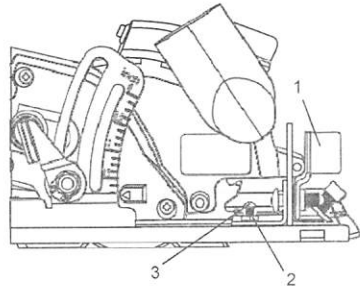

Fig. 4
1. Loosen the bevel locking lever (1) and rotate the sole plate toward the 0° mark as far as it will go and tighten the bevel angle locking lever (Fig 4).
3. If the test cut is not at 90°, turn the zero adjustment lock nut (2) counter clockwise approximately ¼ turn using a 7mm wrench.
4. Use a #2  screwdriver to turn the zero bevel adjusting screw (3) in or out until the saw is cutting at 90° when the sole plate is contacting the adjusting screw.